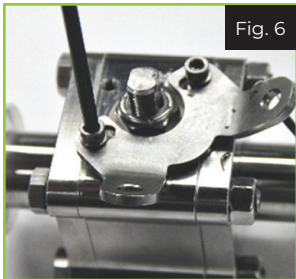

Fig. 6
4. To finish removing the lock plate, use the 9/64" hex key to remove the two socket head screws securing the lock plate to the valve (Fig. 6).